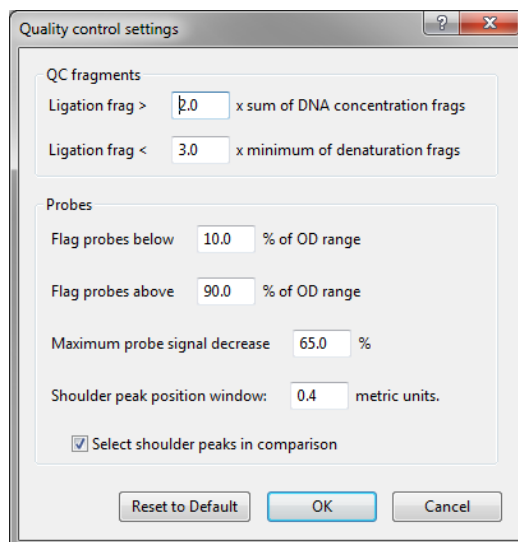

Figure 4.5: The *Quality control settings* dialog box.
3.2 Select *Quality control* > *Settings* to call the *Quality control settings* dialog box (see Figure 4.5).